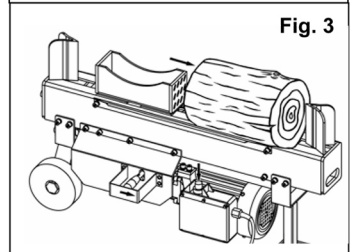

Fig. 3
- Load log between log cradles and on the machine body. (Fig. 3)
- Move control handle right if the log needed to be split rightward, and switch on the motor with right hand until the log is split. (Fig. 3)